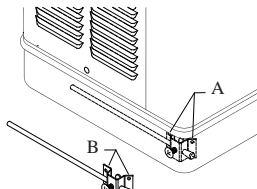

Fig. 1
- Remove two corner screws in bottom pan (A-Fig. 1).
- Place house leg bracket at corner of bottom pan, using two top holes in bracket (B-Fig. 1). Replace the two previously removed screws to hold house leg bracket in place (As shown by dotted house leg bracket).